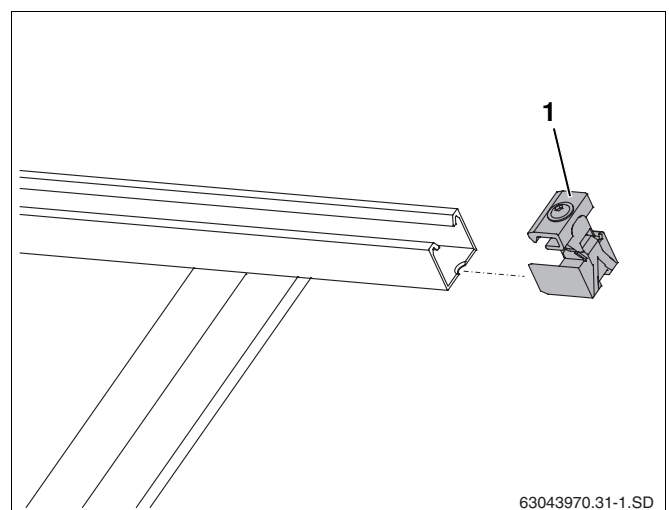

Fig. 44 Pushing on the single-sided collector clamp
- Push single-sided collector clamps (Fig. 44, **Item 1**) into the profile rails at the right-hand end of the collector array until they click into place in the first slotted hole on the profile rails.